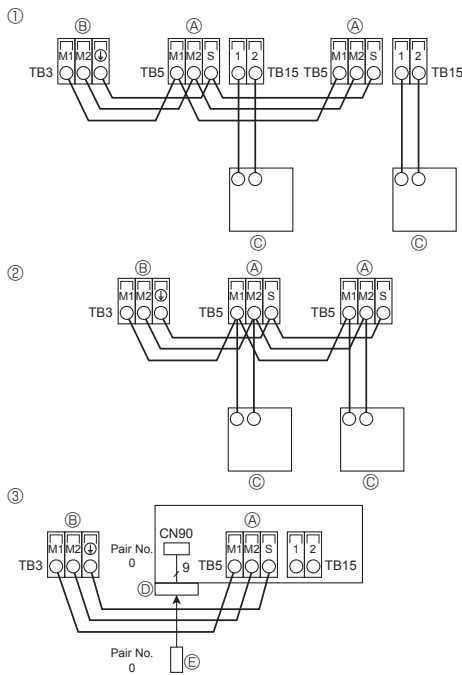

Fig. 5-8
5.4. Connecting remote controller, indoor and outdoor transmission cables (Fig. 5-8)